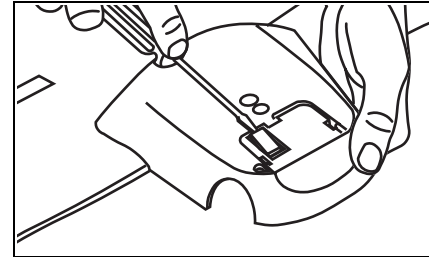

Figure 13: Remove break away piece with screwdriver
6. At the base of the display console back cover, remove the break away piece to allow room for the audio cable. Use a flathead screwdriver to push the piece out of the display console back cover. See Figure 13. You can discard the break away piece.